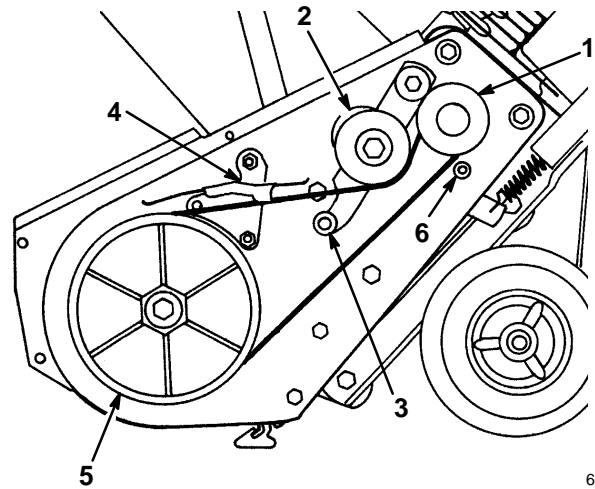

Figure 21
3. Push down on the idler pulley and remove the drive belt from the rotor pulley, the brake arm assembly, and the engine pulley (Fig. 21).
4. Loop the new drive belt around the engine pulley, under the idler pulley, over the roller, through the brake assembly, and around the rotor pulley (Fig. 21).
IMPORTANT: The drive belt must be on top of the roller as shown in Figure 21.